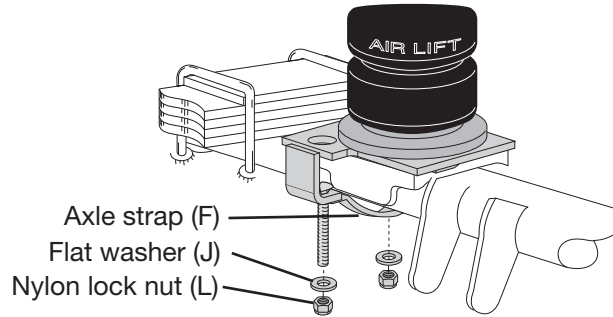

fig. 9
4. Attach the axle strap (F) to both lower bracket carriage bolts using two flat washers (J) and two nylon lock nuts (L). Torque evenly to 16 lb.-ft. (22Nm) (Fig. 9).